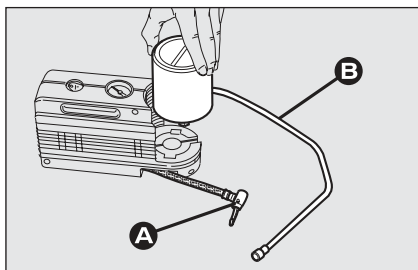

fig. 9
- disconnect connection **A**-fig. 9;
- connect connection **A**-fig. 9 to the cylinder and fit the transparent tube **B**-fig. 9 into the proper space.